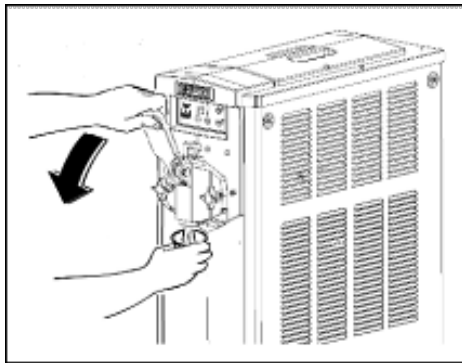

Fig. 77
- To dispense, place a glass under the tap and pull the lever as shown in Fig. 77 . The beater will begin to rotate again, starting the dispensing phase.